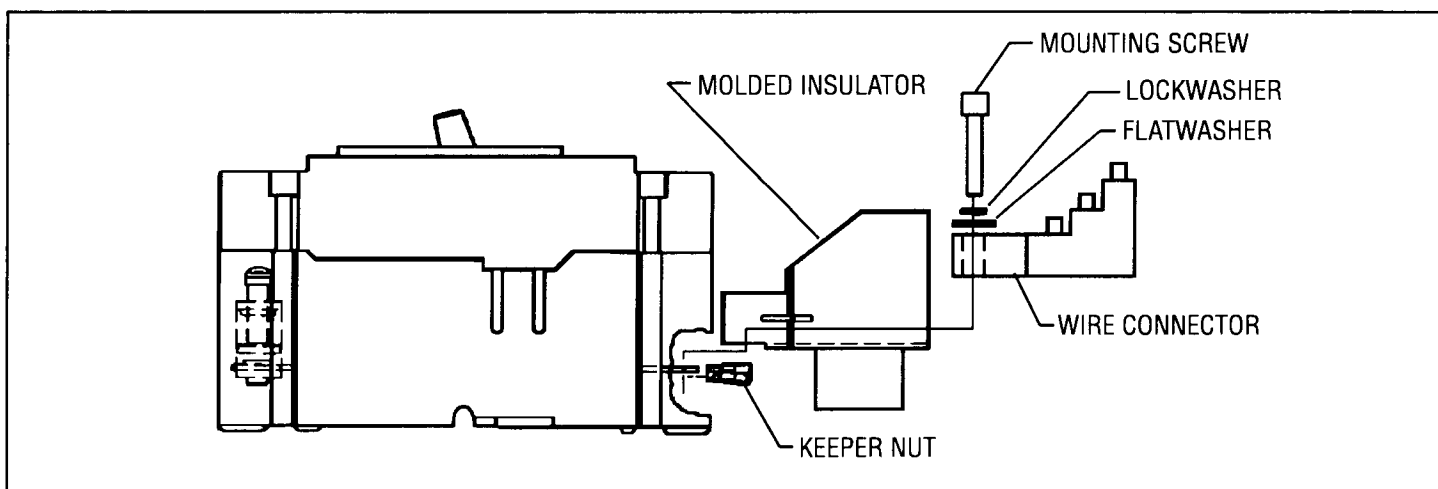

Figure 1. Typical F-Frame Circuit Breaker Installation
If circuit breaker is installed in equipment, it **MUST** be removed from equipment for installation of this kit. This kit is intended for use **ONLY** on the **LOAD END** of the circuit breaker. See Figure 1.
- 2. Install keeper nuts on all **LOAD END** terminals of breaker as shown in Figure 1.
- 3. Place kit wire connector into molded insulator as shown in Figure 1.
- 4. Place molded insulator and wire connector on top of breaker terminals as shown in Figure 1.
- 5. Install provided mounting screw, lockwasher and flat washer as shown in Figure 1. Torque mounting screw to 35 lb.-in.